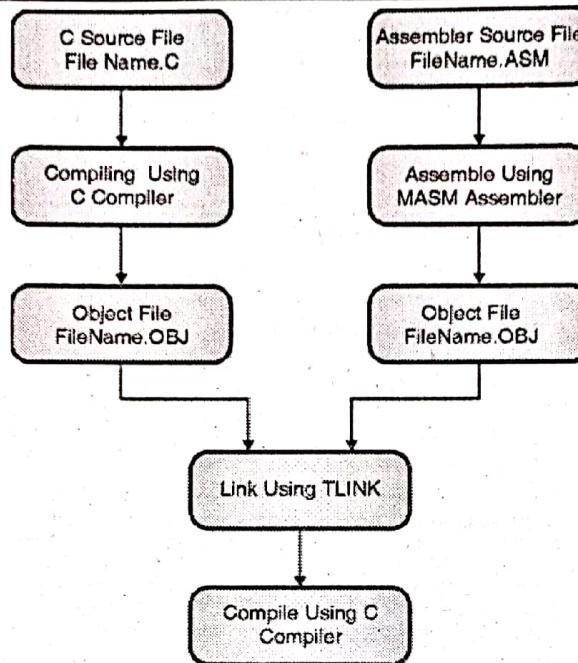

Fig. 1-Q.1(b) : Combining C and assembly
- Fig. 1-Q. 1(b) shows Compile, Assemble, and link processes using C compiler, MASM Assembler and TLINK.